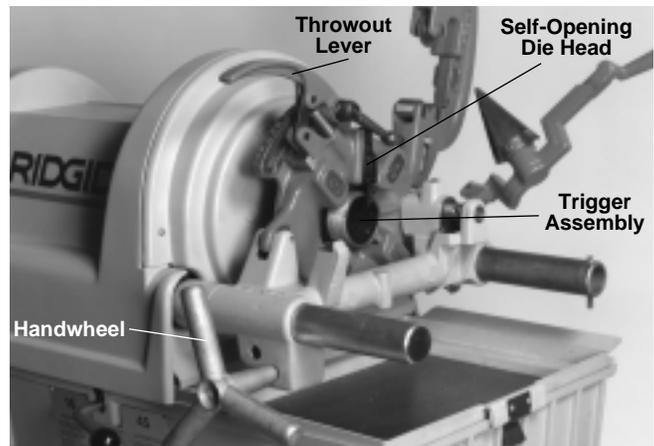

Figure 10 – Threading Pipe with No. 815A Die Head
5. Turn carriage handwheel to bring dies against end of pipe. Slight pressure on handwheel will start dies (Figure 10).
The No. 815A Self-Opening Die Head (*Figure 10*) for right hand threads requires four sets of dies to thread pipe ranging from 1/8" through 2". One set of dies is required for each of the following pipe size ranges: (1/8"), (1/4" and 3/8"), (1/2" and 3/4") and (1" through 2"). Bolt threading requires a separate set of dies for each bolt size.